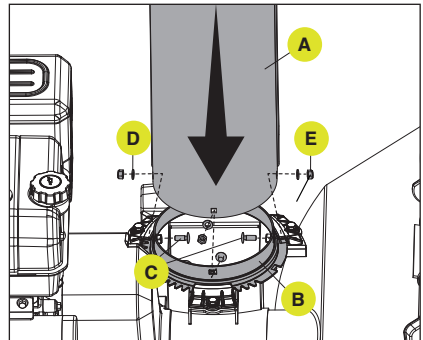

Figure 6
Remove the chute (A) from the bubble wrap and attach it to the chute gear (B). Connect the chute with 3 bolts (C), 3 washers (D) and 3 locking nuts (E) as shown (Fig. 6). Torque until snug. Do not overtighten.